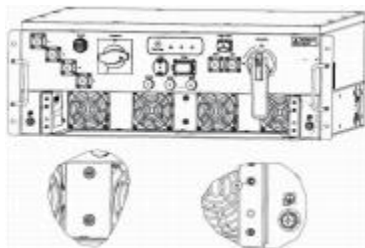

Figure 10-2 Bracket
Step 3: Loosen the fixing screws on the fan bracket and the anti-loosening screw in the middle with a recommended torque of 1.5N·m, as shown in Figure 10-2.